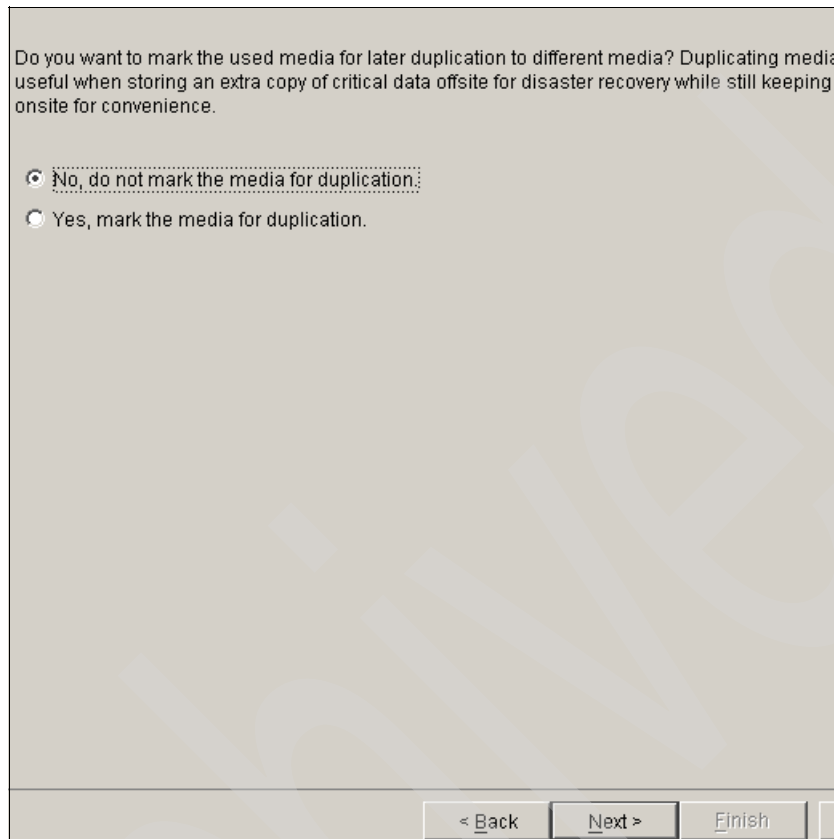

Figure 6-26 New Backup policy wizard - duplicate media
16. In the wizard window that pops up next, specify if you want the cartridges to be duplicated. In our example we do not want them to duplicate, so we select **No**, as can be seen in Figure 6-26. After making the selection, click **Next**.